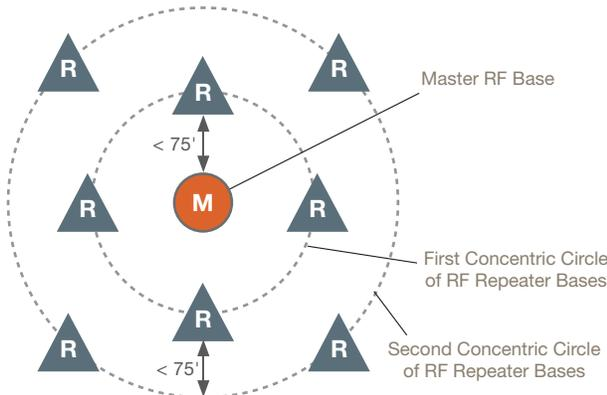

Figure 10 RF Repeater Bases should be placed in concentric circles from Master RF Base.
STEP 2: Locate your RF Repeater Bases within 75' (23 meters) of the Master RF Base in a concentric pattern (see **Figure 10**). Consider metal obstructions in your placement. RF Repeaters must have a clear communications path to the Master RF Base free of metal obstructions. If metal obstructions exist, you may need to locate the RF Repeater closer to the Master RF Base or add a second RF Repeater to navigate around the obstruction.